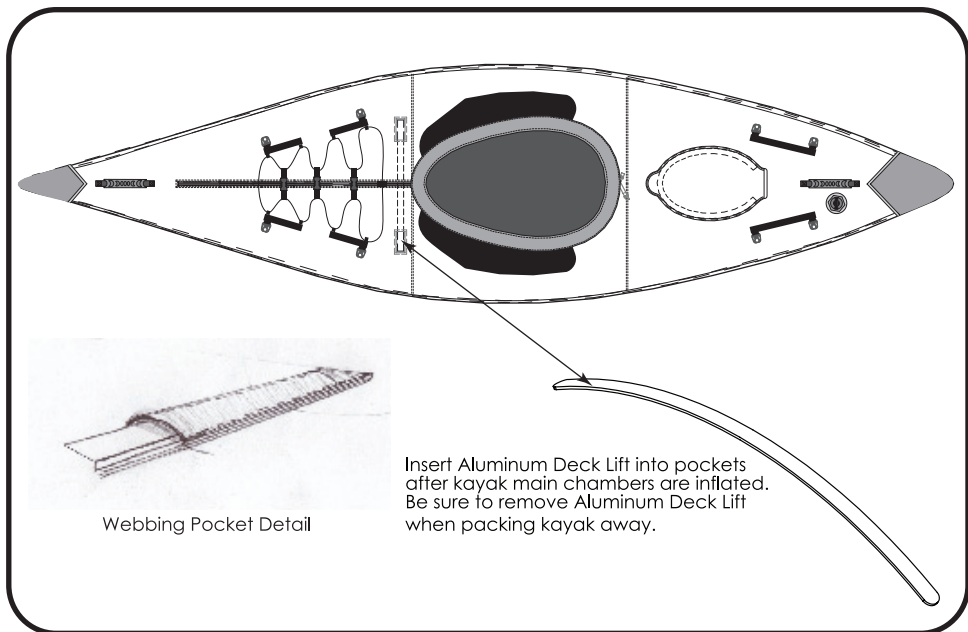

Figure 3. Aluminum Deck Lift Installation
5. Making sure that the Aluminum Deck Lift is arching upward, insert each end of the curved Aluminum Deck Lift into the webbing sleeves. (*See Figure 3 on next page*)